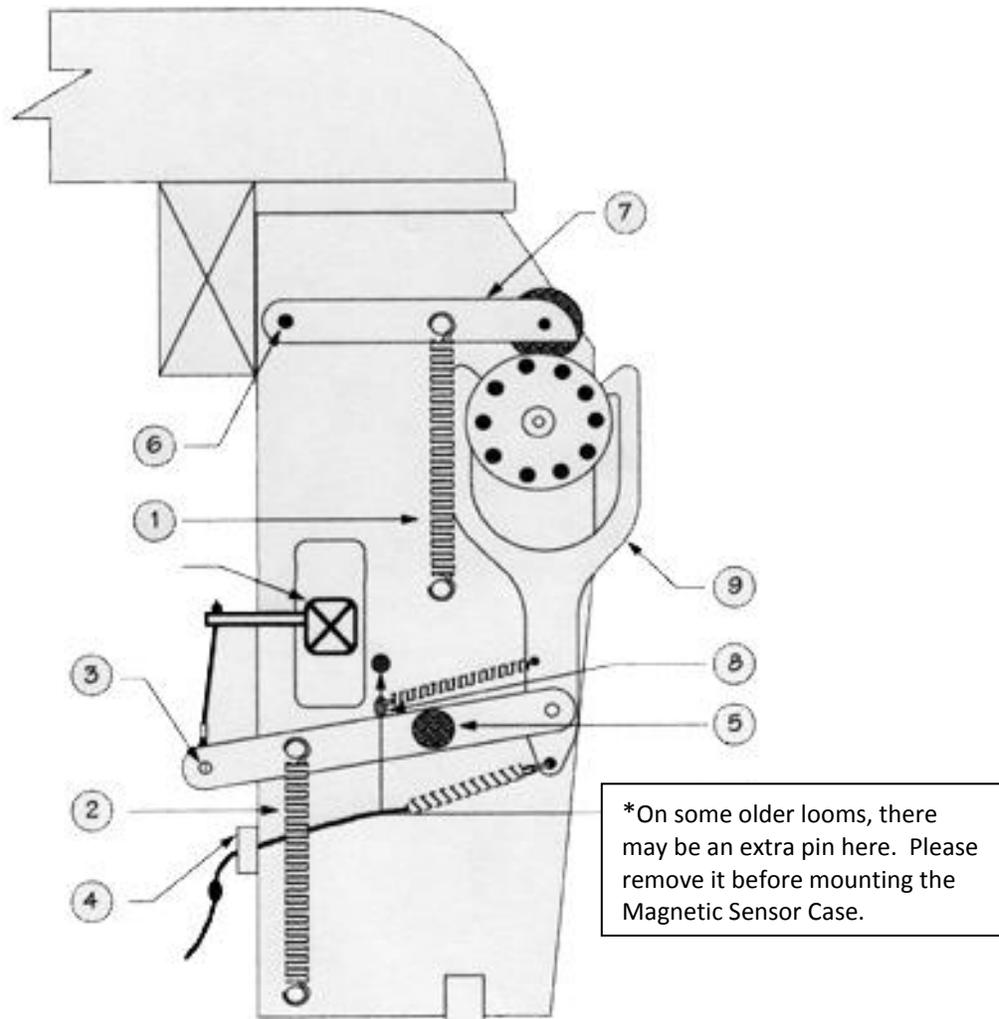

Figure 2: Dobby Head
2.2.1 From the left side of the Dobby (see Figure 2):
The Magnetic Dobby Arm Sensor (see Image 3) is the unit that sends signals to the Compu-Dobby and tells it whether the harnesses (dobby arm) are up or down. It has two slots. One slides over the bottom pin of Spring #1 (see Figure 2). The other slot is held in place by a screw that replaces the center brace screw of the dobbie.